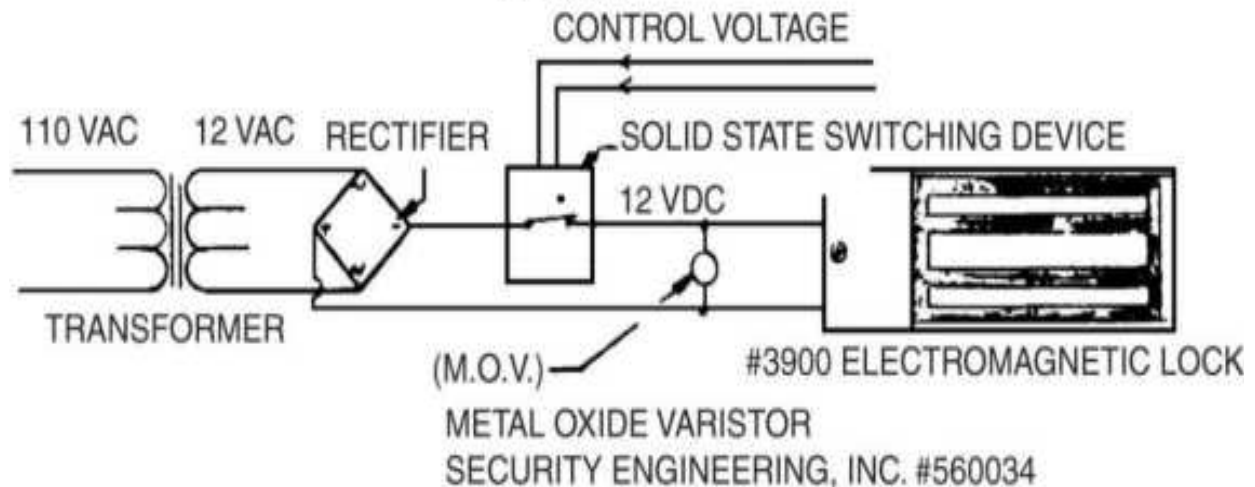

**Figure 19.59** Model 3900 wiring, Step 3.
- Solid state on-off devices must be properly protected from the back voltage generated from the collapsing electromagnetic lock coil when the unit is switched off. This may be accomplished by installing a metal oxide varistor (MOV) across the lock coil lead wires (Fig. 19.59 ). The MOV is available from Security Engineering; see the address in Appendix B.